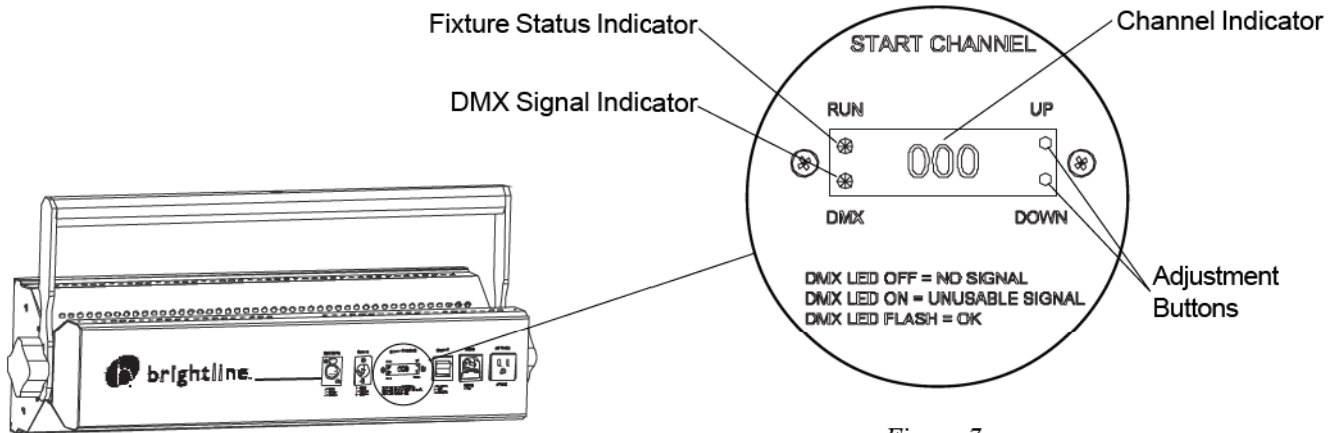

Figure 7
- Console Dimming Mode:** Fixture is set to a DMX address for dimming by the use of a lighting control console. Use Table 2 to evaluate the readout of the channel indicator on the LED display (Figure 7).
- The DMX signal indicator is used to determine whether the fixture is receiving a DMX signal while in the **Console Dimming Mode**. The lighting control console and all necessary DMX cabling must be installed. Use Table 3 to evaluate the readout of the DMX signal indicator on the LED display (Figure 7).
- The fixture status indicator is used to determine whether the changes being made to the settings at the LED display are completely processed. Use (Table 4) to evaluate the readout of the fixture status indicator on the LED display (Figure 7). Any changes made to the settings will require a few seconds to be processed.